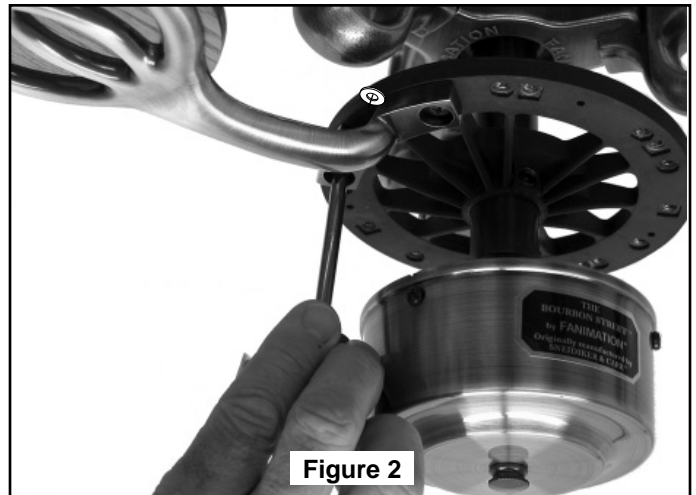

Figure 2
2. Punch two holes (approximately 1/8 inch in diameter) through the overlapping belts, spacing them one inch apart with the punch tool supplied. (Figure 2)
2. Then mount the assembled blade/blade holder onto the flywheel, secure with flywheel screws. (Figure 2)